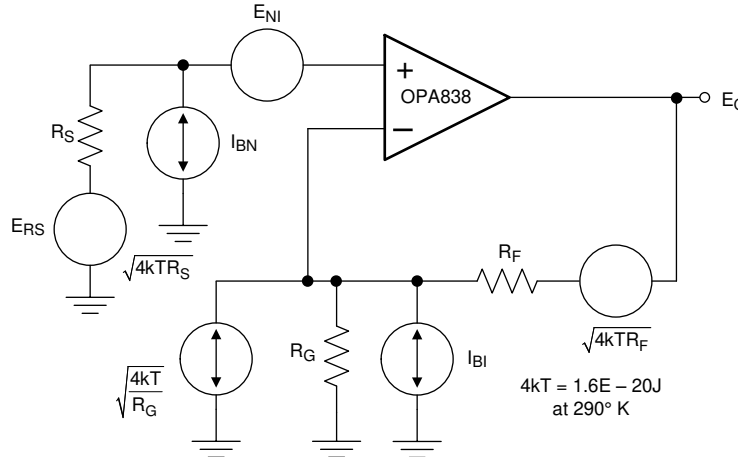
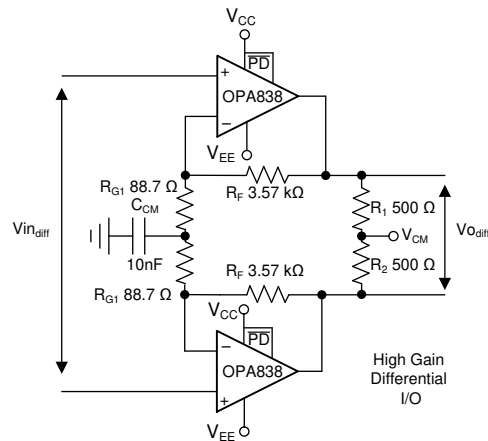

Figure 8-3. Op-Amp Noise-Analysis Model
Figure 8-4. High-Gain Differential I/O Stage
The decompensated voltage feedback of the OPA838 op amp offers among the lowest input voltage and current noise terms for any device with a supply current less than 1 mA. Figure 8-3 shows the op amp noise analysis model that includes all noise terms. In this model, all the noise terms are shown as noise voltage or current density terms in nV/√Hz or pA/√Hz.
The total output spot noise voltage is computed as the square root of the squared contributing terms to the output noise voltage. This computation is adding all the contributing noise powers at the output by superposition, then taking the square root to return to a spot noise voltage. Equation 3 shows the general form for this output noise voltage using the terms presented in Figure 8-3.
A high-gain differential-to-differential I/O circuit can be used to drive a second-stage FDA or a differential-to-single-ended stage. This circuit is frequently used in applications where high input impedance is required (for example, if the source cannot be loaded). Figure 8-3 illustrates an example design where the differential gain is 41 V/V. An added element between the two R_G resistors increases the noise gain for the common-mode feedback. Make sure to provision for the added element; otherwise, a decompensated VFA (such as the OPA838) often oscillates. With only the R_G elements in the differential I/O design, the common-mode feedback is unity-gain and often causes high-frequency, common-mode oscillations. To resolve this issue, split the R_G
As an example design, start with the circuit in Figure 8-4.
- Assess the DC common-mode biasing on the noninverting inputs. The DC biasing must be in range and have a gain of 1 to the output. This is not illustrated in Figure 8-3.
- If a DC reference is used as the mid- R_G bias, setting the reference equal to the noninverting input bias voltage sets the output common-mode to that voltage. Using a capacitor as illustrated in Figure 8-3 accomplishes the same results.
- Set the total R_G value near the high gain values using Table 8-1. This 178- Ω total must be split for a center tap to increase the common-mode noise gain, as shown by the 88.7- Ω value in Figure 8-4.
The common-mode loop instability without the R_G center tap is not often apparent in the closed-loop differential simulations. The common-mode loop instability without the R_G center tap can often be detected in a common-mode output-noise simulation as Figure 8-5 shows. Grounding the inputs Figure 8-4 and running an output-noise simulation for the common-mode tap point in Figure 8-3 shows a peaking in the noise at high frequency. This peaking indicates low-phase margin for the common-mode loop. Figure 8-5 shows this peaking in the lowest noise curve, with two options for improving phase margin. The first option used in Figure 8-4 is a capacitor to ground set to increase the common-mode noise gain only at higher frequencies. This increase can be seen by the peaking in the common-mode noise of Figure 8-5. Another alternative is to provide a dc voltage reference on the R_G center tap. This method raises the common-mode noise gain from dc and beyond. Neither of these latter two options show any evidence of low phase-margin peaking. These two options do increase the output common-mode noise significantly at lower frequencies. Typically, an increase in output common-mode noise is more acceptable than low-phase margin because the next stage (FDA, ADC, differential to single stage) rejects common-mode noise.